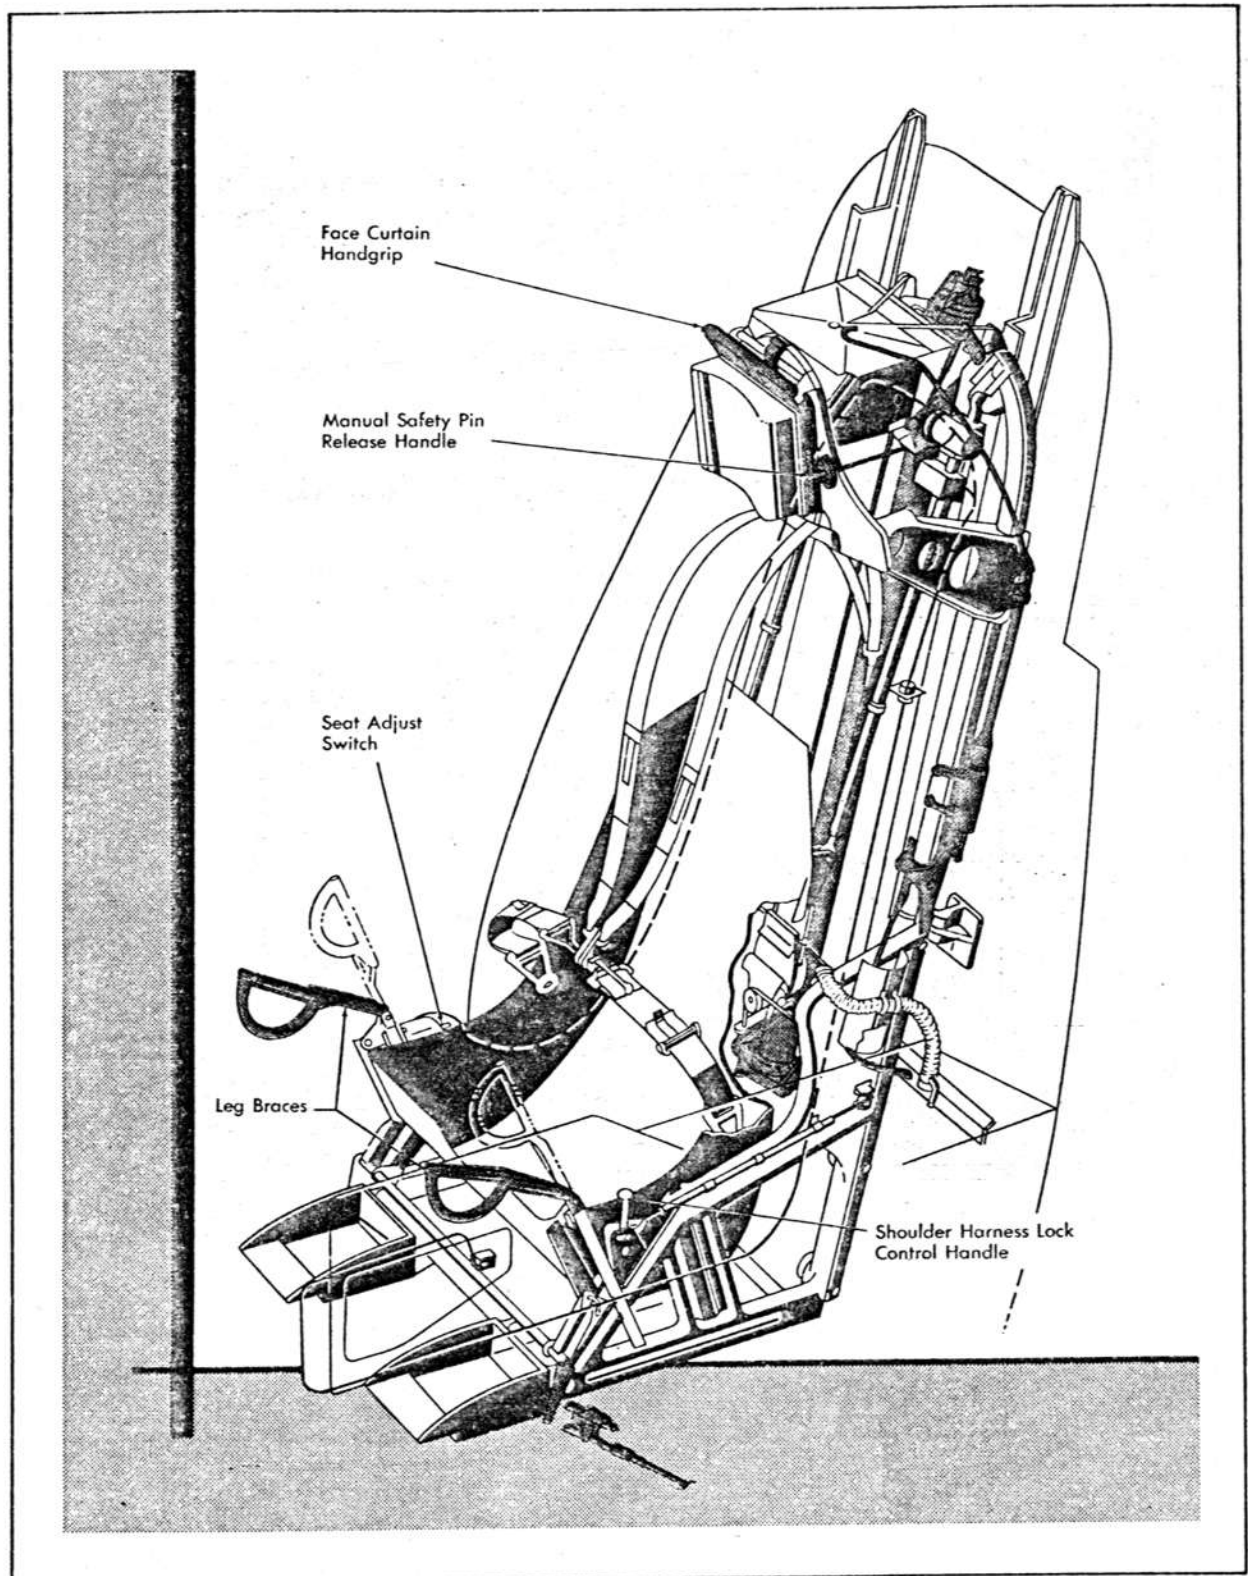

Figure 1-38. Ejection Seat Controls
**PILOT'S LEG BRACES.** The pilot's leg braces (figure 1-38) are mounted on the ejection seat chassis and, when pulled up in place, they protect the pilot's legs during ejection. The left-hand leg brace is the pre-ejection control and is safety wired to prevent inadvertent actuation. When the leg braces are pulled up into the ejection position, a crank attached to the left-hand leg brace actuates a bell crank which starts the canopy jettison operation (refer to discussion under **CANOPY CONTROL SYSTEM**), and a connecting link moves the shoulder harness lock control handle to the lock position. As the canopy moves aft during the jettison operation, it arms the catapult.
**PILOT'S FACE CURTAIN.** The pilot's face curtain (figure 1-38) consists of a nylon curtain and a red handgrip and is located immediately above the pilot's headrest. The nylon curtain protects the pilot's face against the strong pressure of the air as he is ejected. When the face curtain is pulled down to almost its full travel a ribbon attached to the face curtain fires the catapult. The face curtain is held in the retracted position by elastic cords which pull the curtain away from the pilot's face when he releases the handgrip.
**SEAT CATAPULT SAFETY PIN MANUAL RELEASE HANDLE.** If the canopy jettisons but fails to arm the catapult by pulling the safety pin, the safety pin can be removed by pulling the safety pin manual release handle (figure 1-38). The handle is located immediately to the left of the pilot's headrest.
**BUCKET SEAT ADJUST SWITCH.** The bucket seat adjust switch (figure 1-38) is located on the right-hand leg brace. The up and down positions of the switch are momentary and the center position is off or stop. Holding the switch up moves the seat up and slightly forward; holding the switch down moves the seat down and slightly aft.
**SHOULDER HARNESS LOCK CONTROL LEVER.** The shoulder harness lock control lever (figure 1-38) is located on the lower left-hand side of the seat. Moving the lever down and forward locks the shoulder harness inertia reel through mechanical linkage.